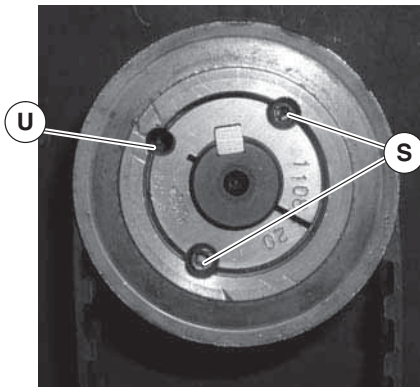

Figure 12
2. Remove taper-lock screws (Figure 12, item S). Insert one (1) of taper lock screws (Figure 12, item S) in remaining hole (U). Tighten screw (S) until pulley is loose. Remove pulley and taper hub assembly.